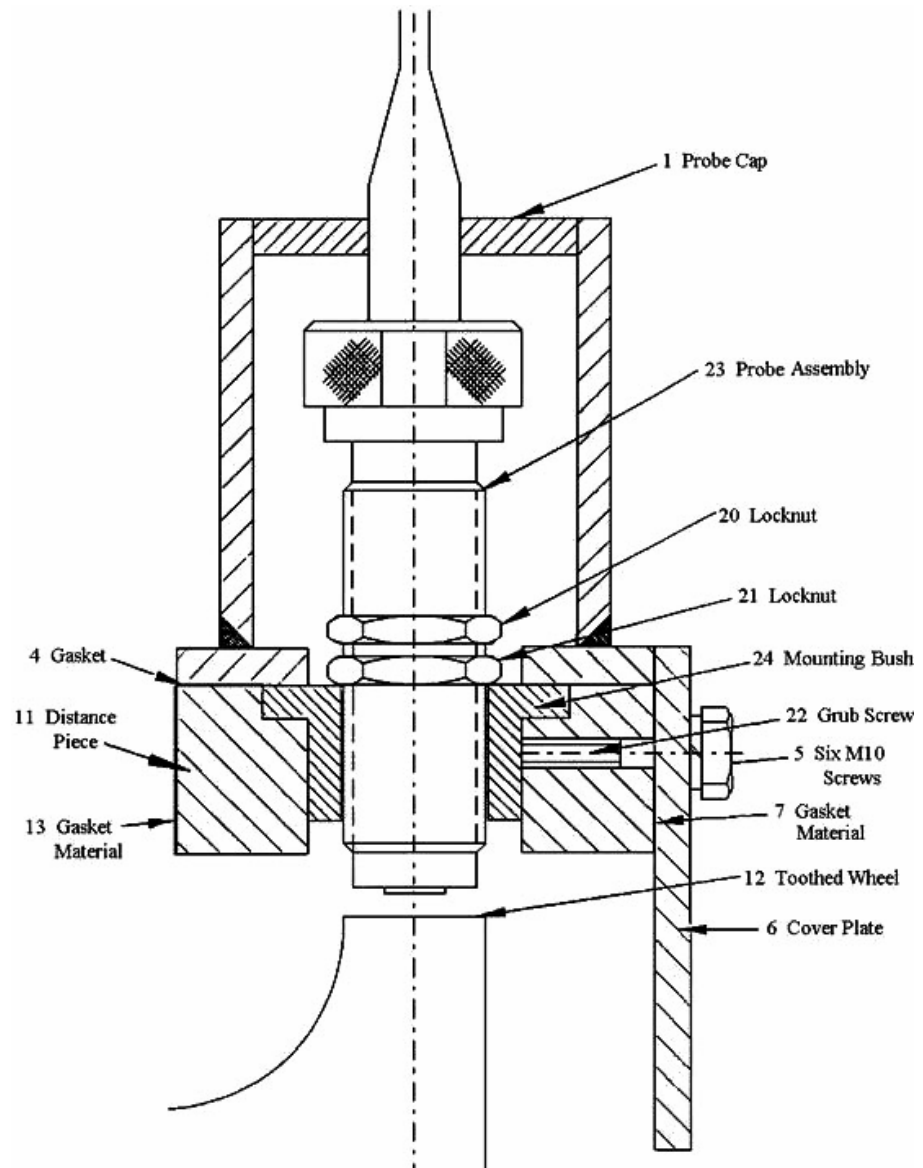

Figure 1: BR WSP Side View (Original Design)
- 3.1 BR WSP System (where fitted) see Figures 1, 2 and 3.
- 3.1.4 Original design (see Figure 1): slacken the two locknuts (20 and 21) and the socket headed grub screw (22). Remove the probe assembly (23) and unscrew the mounting bush (24).